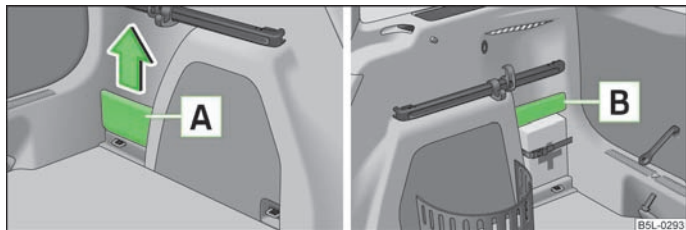

Fig. 82 Luggage compartment: Storage compartments
The cover for the side compartment [A] » Fig. 82 can be removed, thus enlarging the luggage compartment.
➤ Grasp the top part of the cover [A] and carefully remove it in the direction of the arrow » Fig. 82.
- The removable storage compartment [A] » Fig. 82 on the left side is suitable for stowing small objects weighing up to 1.5 kg.
- The storage compartment [B] » Fig. 82 on the right side is suitable for stowing small objects weighing up to 0.5 kg.